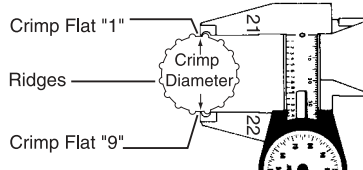

FIG. 1
1. Using Gates "21/22" dial calipers (Product No. 7369-1320, Part No. 78217) measure halfway between ridges (Fig. 1). To be sure crimp diameter is being properly measured, mark a crimp flat. Beginning with that flat, count 9 flats to get the diameter. Be sure caliper blades DO NOT touch ridges. (See Photo 3.)